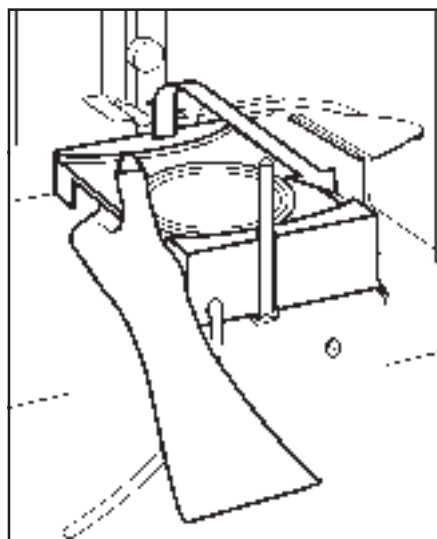

Fig.13: Removing the sieve housing
7. Pull the front of the sieve housing upwards and out of the machine (see fig. 13).